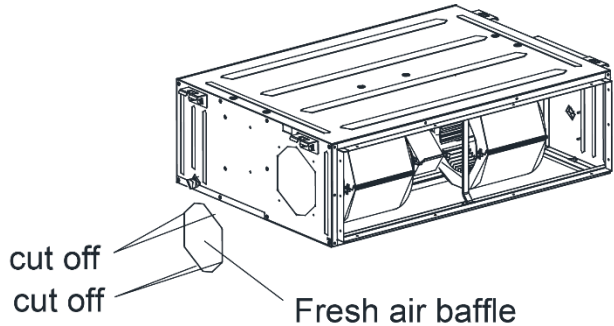

Fig 4.4.8
(1)When the fresh air pipe is needed to be connected, cut the fresh air baffle as Fig 4.4.8.